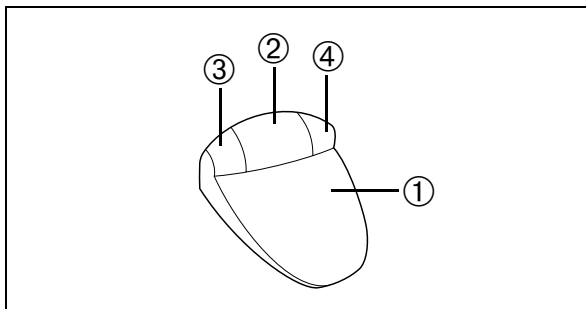

Fig. 13
The infinitely variable type F9 and F10 controls (Fig. 13) have a pedal ① and buttons ② ... ④ for switching between different operating modes.